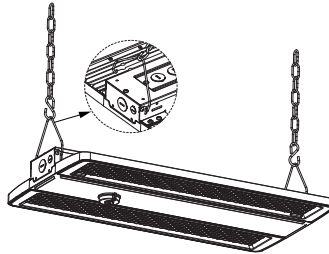

Figure 2
- Step 1.Hook up the chain; (Figure 2)
- Step 2.Connect the chain with fixture; (Figure 2)
- Step 3. Secure the chain on the rail, adjust the chain length as per need; (Figure 2)